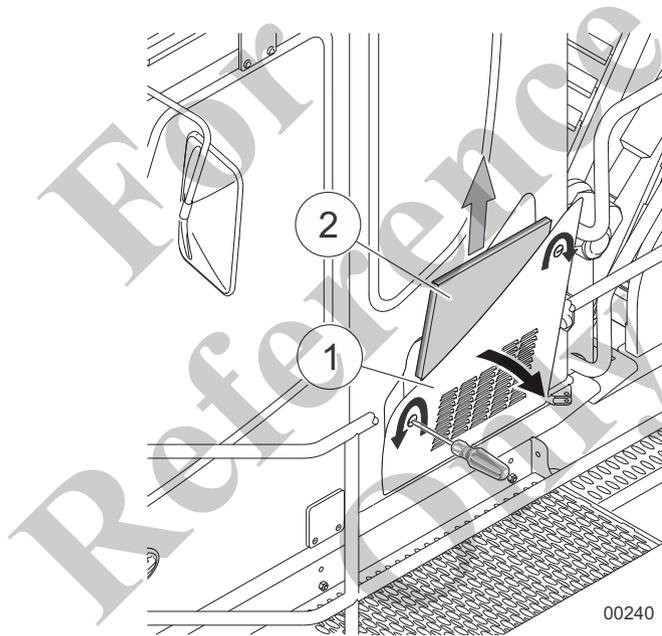

Fig. 241 Fresh air filter
1	Open the cover closures (1) in Fig. 241 with a screwdriver. – Turn the front closure to the left to open it. – Turn the rear closure to the right to open it.
3	Pull the filter element (2) in Fig. 241 up and out.